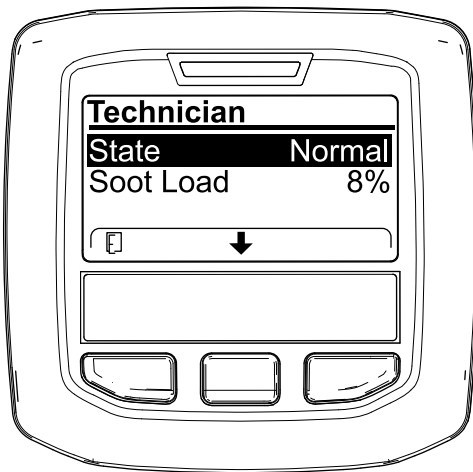

Figure 37
- Use the DPF operation table to understand the current state of DPF operation (Figure 37).